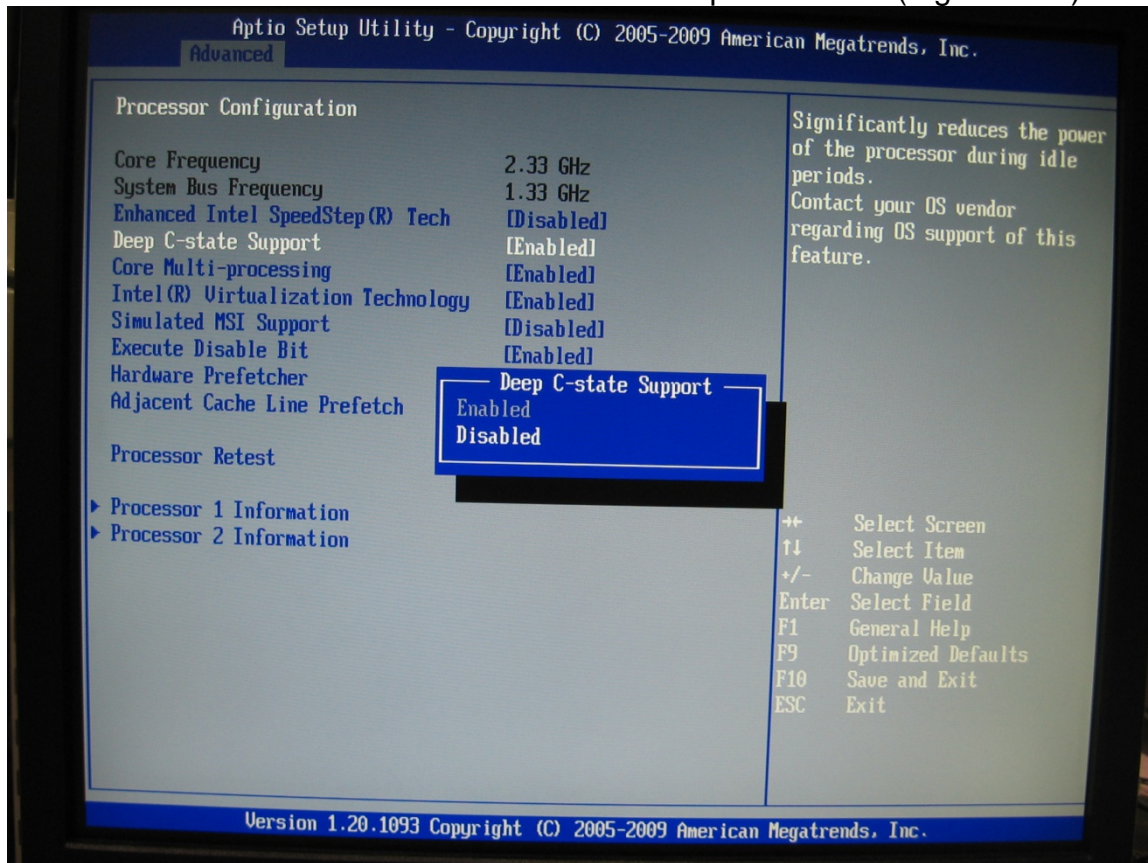

Figure 6-16 Deep C-state Support Screen
- In **Deep C-state Support** screen select **Disable** and press **Enter**. (Figure 6-16).